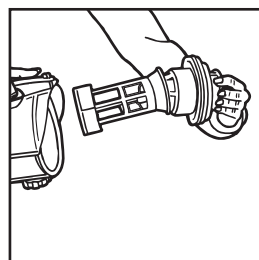

Fig.3/22
6. Replace filter by grasping tab and turning clockwise. (Fig 3/21) Push filter down and into filter assembly. Return filter assembly back into Clean/Dirty Water Tank. (Fig 3/22).